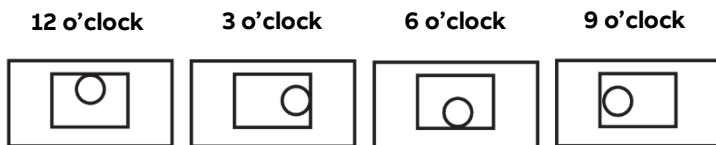

Figure 1
3. Hub can be mounted in any of the four positions indicated below (Figure 1).